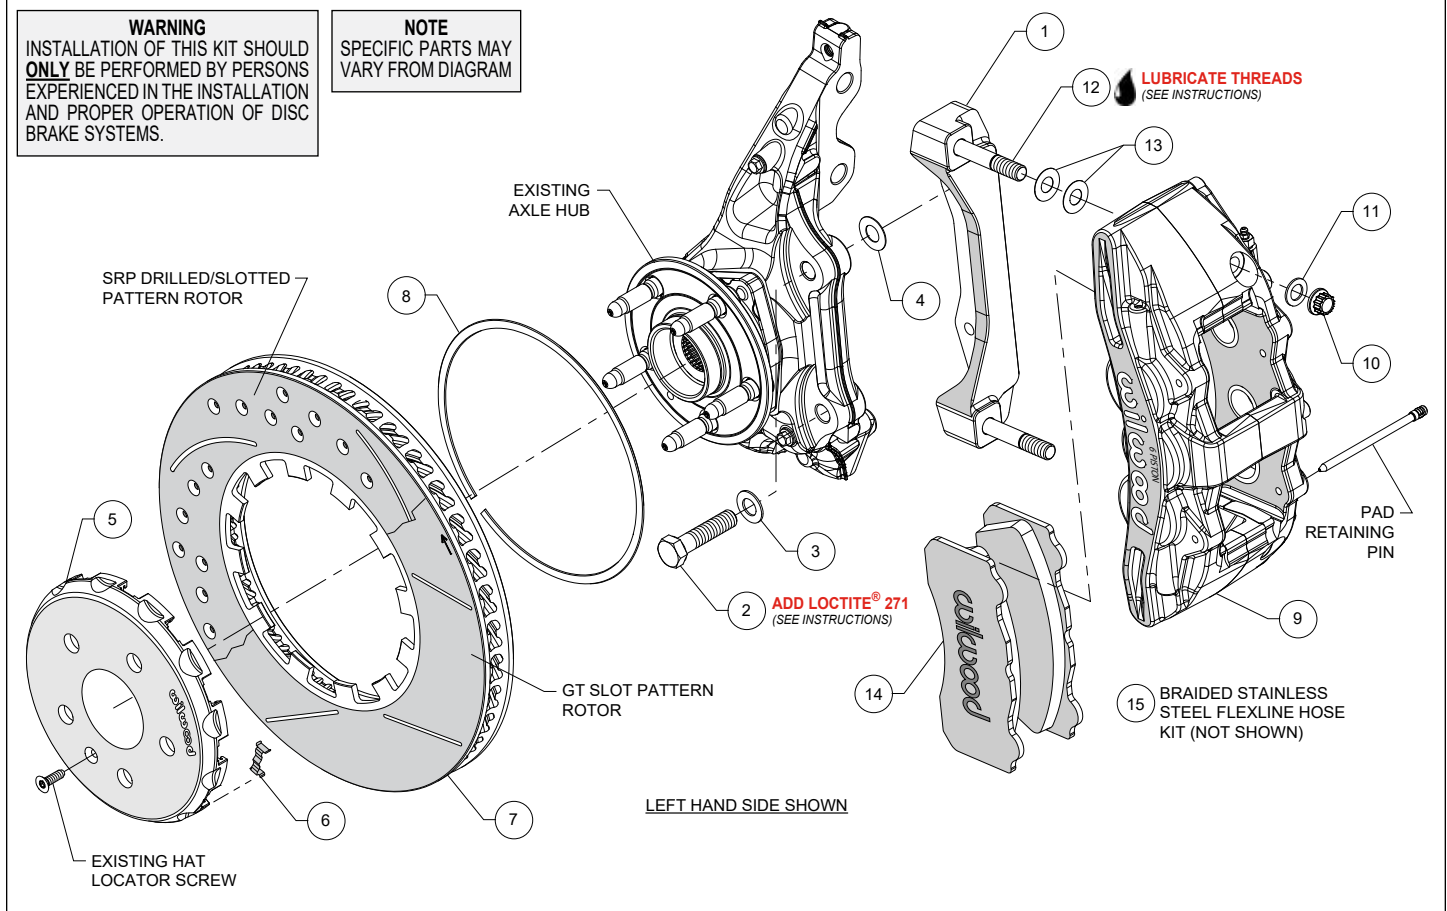

Figure 1. Typical Installation Configuration
NOTE: Numbers in parenthesis refer to the parts list and Figure 1 on the preceding pages.
•The caliper mount bracket (1) should initially be installed with clean, dry threads on the mounting bolts. Orient the bracket, as shown in Figure 1 and Photo 1, and install using bolts (2) and washers (3). Initially place one .029" thick shim (4) on each bolt between the bracket and upright, Figure 1. Temporarily tighten the mounting bolts. **NOTE:** The bracket must fit squarely against the mount bosses on the upright. Inspect for interference from casting irregularities, machining ridges, burrs, etc. Later, after the caliper alignment has been checked, the mount bolts will be secured using red *Loctite*® 271.
•Insert the dynamic mount wear clips (6) into the slots in the hat (5), Photos 2 and 3. Orient the rotor (7) as shown in Figure 1 and Photo 4, with the flush side of mount lugs facing the hat. Secure the rotor to the hat using the snap ring (8) by simultaneously pushing down on the rotor and installing the ring into the groove in the hat, as shown in Photo 5. Carefully inspect snap ring to ensure complete engagement in the groove.
•Slide the hat/rotor assembly onto the axle hub, Photo 6. **NOTE:** The hat must fit flush against the axle hub flange or excessive rotor run out may result. Install the hat locator screw (OEM), as shown in Figure 1, to keep the hat/rotor assembly in place while continuing with the installation.
•**NOTE:** This kit contains distinct right and left hand calipers that must be mounted in a specific direction, as described below. Lubricate the caliper mounting studs (12) with lightweight oil. Initially place two .015" thick shims (13) on each stud between the caliper and the bracket, as shown in Figure 1 and Photo 7. Mount the caliper (9) onto the bracket (1) using lock nuts (10) and washers (11), Figure 1. Temporarily tighten the lock nuts. Ensure that the caliper is mounted so the largest pistons are at the rotor exit end of the caliper, in relation to the direction of the rotor. View the rotor through the top opening of the caliper. The rotor should be centered in the caliper, Photo 8. If not, adjust by adding or subtracting shims (4) between the bracket and the upright. Always use the same amount of shims on each of the two mounting bolts. Once the caliper alignment is correct, remove the bracket mounting bolts (2) one at a time, apply red *Loctite*® 271 to the threads, and torque to 105 ft-lbs.
•Remove the two pad retaining pins from the caliper (9) by pushing out the pins from the tapered end using a blunt instrument. Insert the brake pads (14) into the caliper from the bottom, Figure 1 and Photo 9. With the friction material facing the rotor, secure the brake